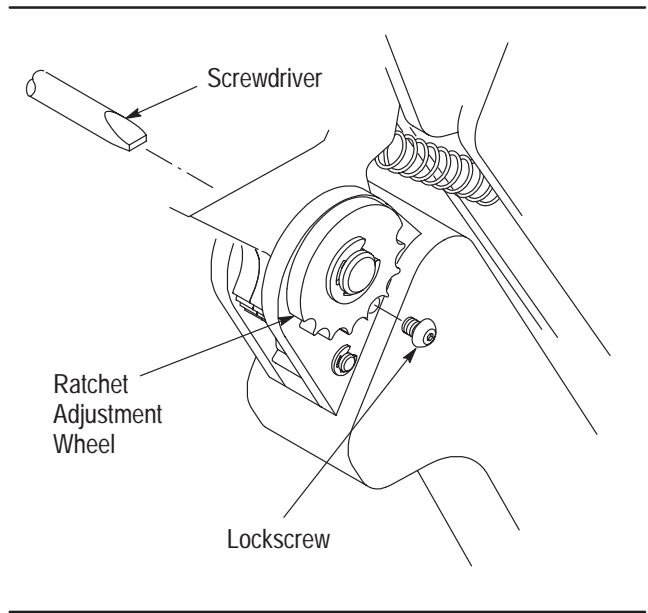

Figure 6
**6. SHUT HEIGHT ADJUSTMENT (Figure 6)**